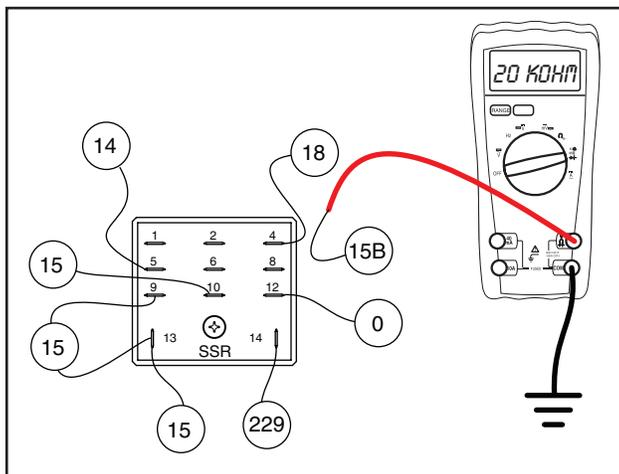

Figure 6-56. – Check Wire 15B
2. Disconnect Wire 15B from the Start Stop Relay (SSR) (see Figure 6-56) . Connect one meter test lead to Wire 15B previously removed. Connect the other meter test lead to frame ground. Approximately 20K ohms should be measured.